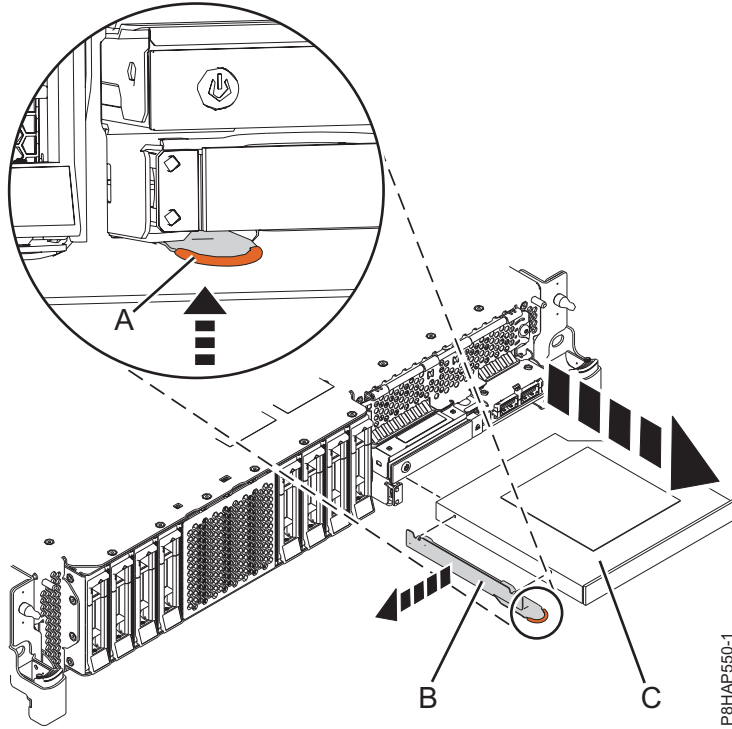
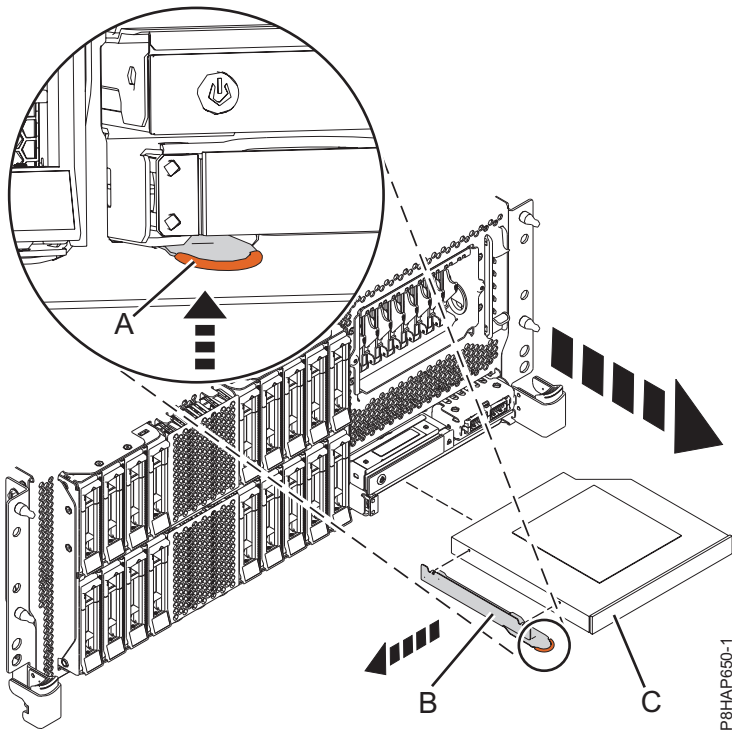
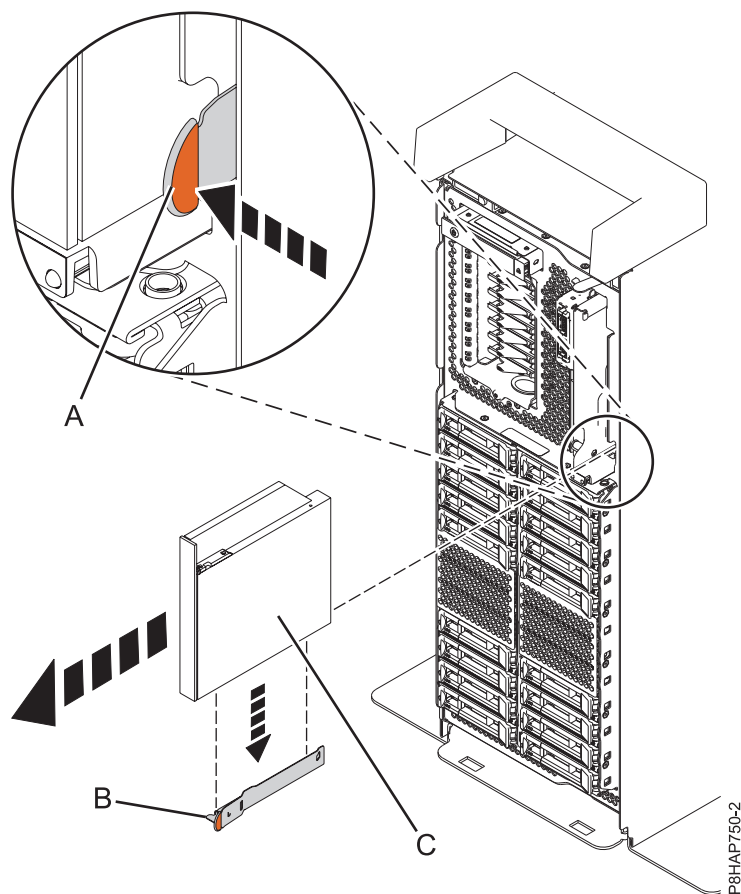

Figure 23. Removing a Slimline media device from an 5148-21L, 5148-22L, 8247-21L, 8247-22L, 8284-21A, or 8284-22A system
Figure 24. Removing a Slimline media device from a rack-mounted 8247-42L, 8286-41A, or 8286-42A system
Figure 25. Removing a Slimline media device from a stand-alone system
For an 5148-21L, 5148-22L, 8247-21L, 8247-22L, 8284-21A, or 8284-22A system, see Figure 23 on page 30, for a rack-mounted 8247-42L, 8286-41A, or 8286-42A system, see Figure 24 on page 30, or for a stand-alone 8286-41A system, see Figure 25 on page 31.
3. Pull the Slimline media device (C) away from the system, in the direction shown in Figure 23 on page 30, Figure 24 on page 30, or Figure 25.
4. If you are removing the Slimline media device as part of another service procedure, do not remove the retaining-bracket (B) from the Slimline media device.
5. If you are removing the failed Slimline media device and replacing with a new Slimline media device, you must remove the retaining-bracket (B) for use with the new media device. Remove the retaining-bracket by holding onto the terracotta touch point and pulling it out of the media device as shown in Figure 23 on page 30, Figure 24 on page 30, or Figure 25.
6. Store the retaining-bracket (B) in a safe place.